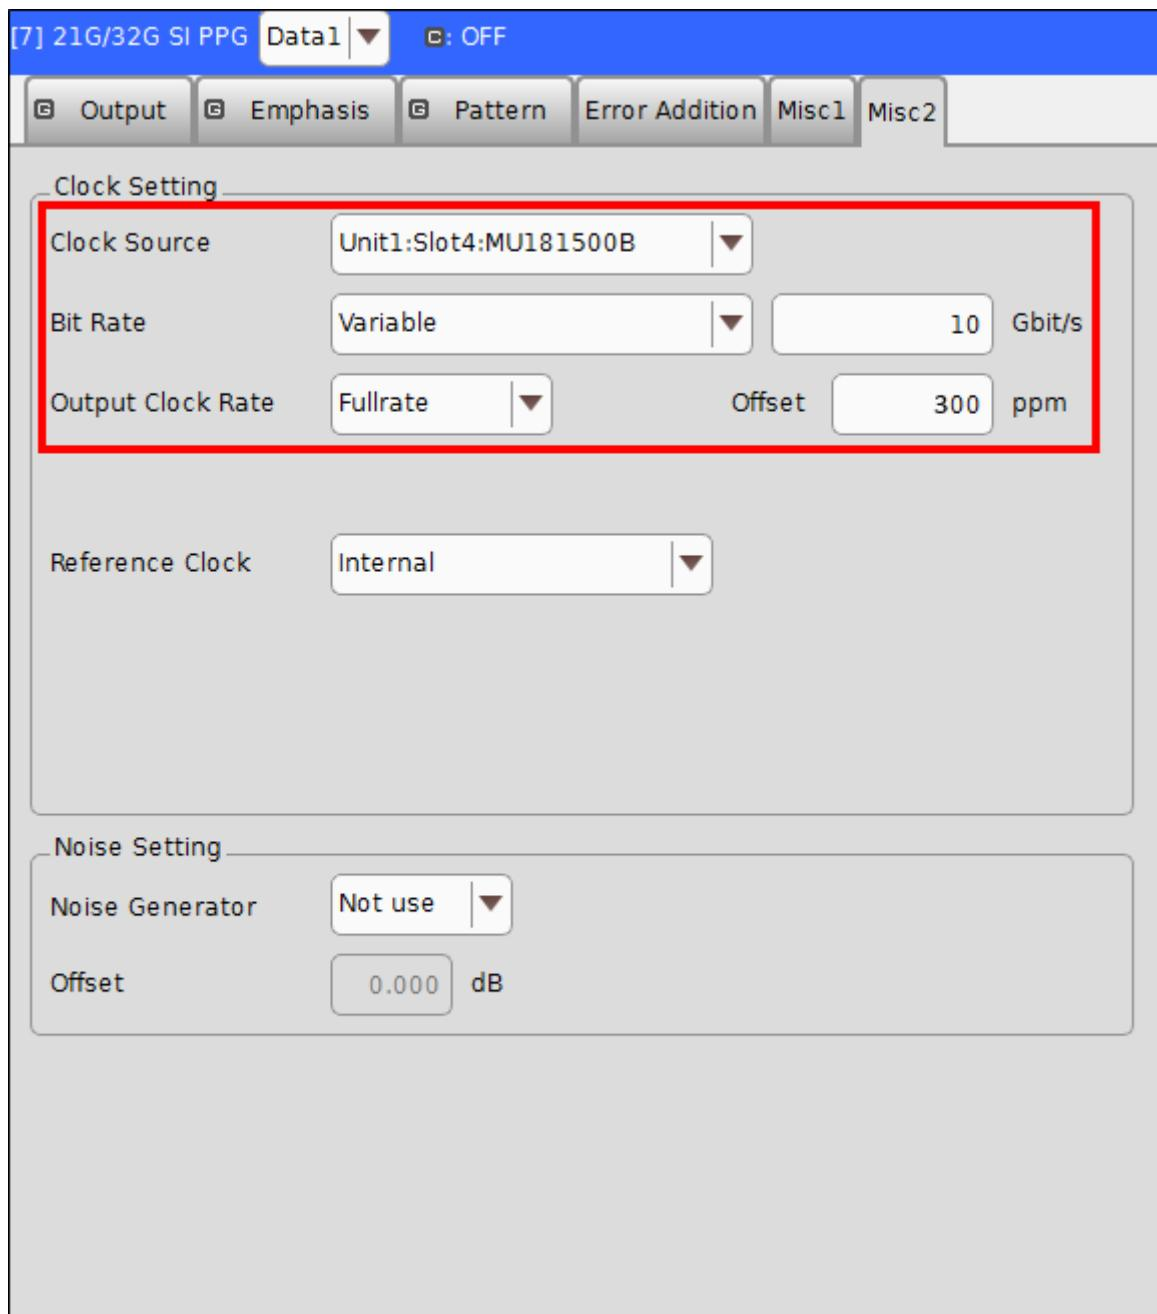

FIGURE 45. PPG Misc2 SETTINGS
- d) Set Clock Source to “Unit1:Slot4:MU181500B”. See Figure 45.
- e) Set Bit Rate to 10Gbit/s. See Figure 45.
- f) Set Offset (ppm) to 300ppm for 10G. See Figure 45.
- g) Set Output Clock Rate to “Fullrate”. See Figure 45.